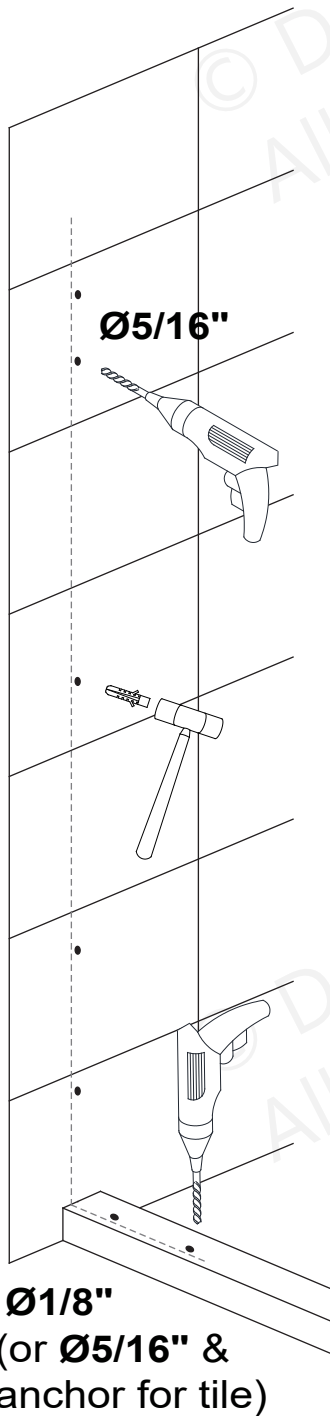

Fig 5
- Drill $\text{\O}5/16''$ holes and install anchors for installation into a tile threshold. (**Fig 5**)